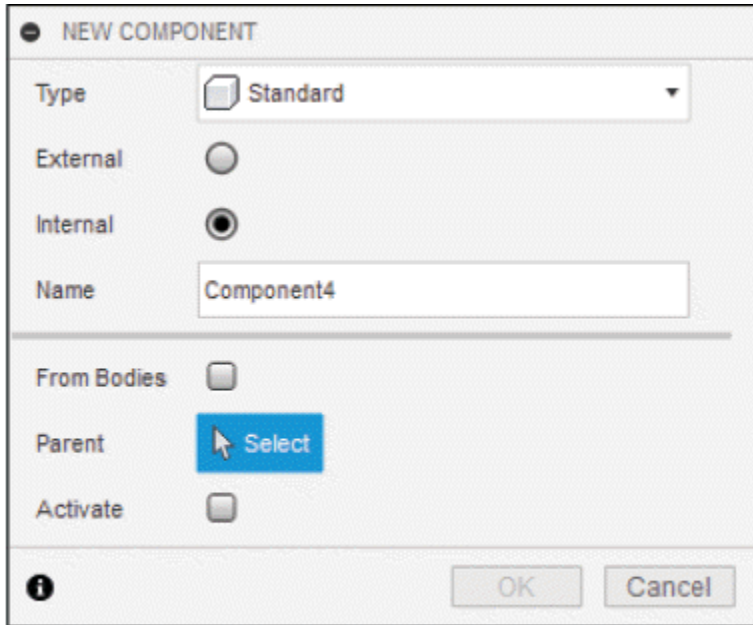

Figure-5. Options on selecting Internal radio button
- If you want to create an internal component directly in the current design then select **Internal** radio button from the dialog box. The options related to **Internal** radio button will be displayed in the **NEW COMPONENT** dialog box; refer to Figure-5.